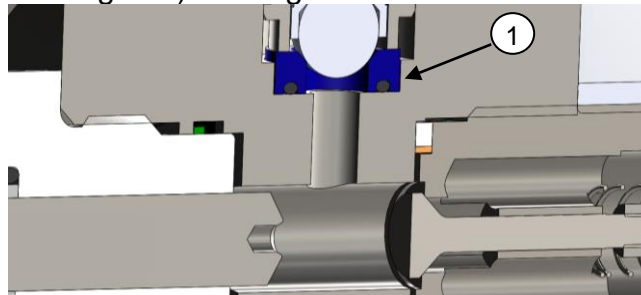

Figure 9
3. Fit composite seals into cylinder block noting orientation of corner back up ring (false coloured green) as in figure 9 below.